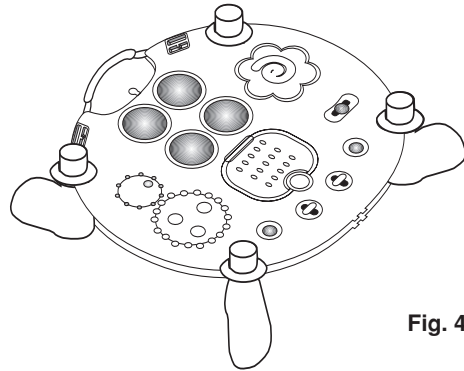

Fig. 4
2. Place your Developlay Activity Center on the floor within hands reach of your baby (Fig. 4).